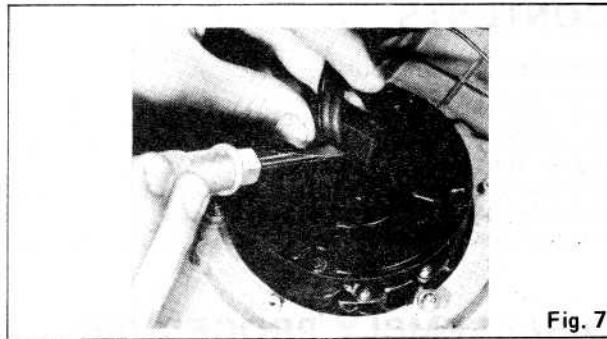

Fig. 7
17. Remove 2 screws **Q** of the phono cord clamber as shown in Fig. 7.
18. Remove phono cord clamber as shown in Fig. 7.